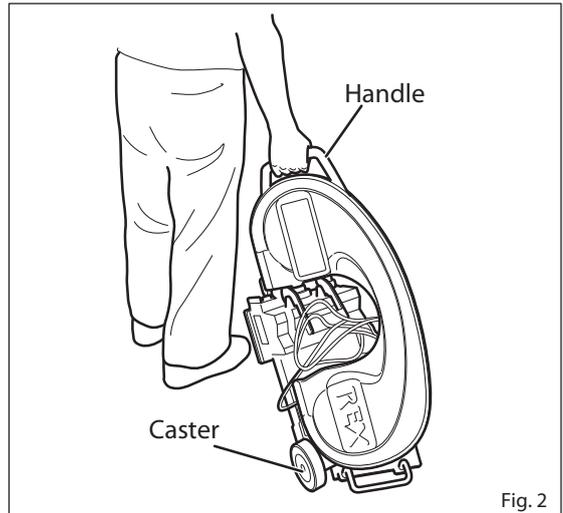

Fig. 2
## 1. Transport and Installation (Figs. 2 & 3)
(1) The frame is locked before the product is packed. Hold up the handle. The casters will contact the ground, allowing you to roll the unit along the ground. (Fig. 2)